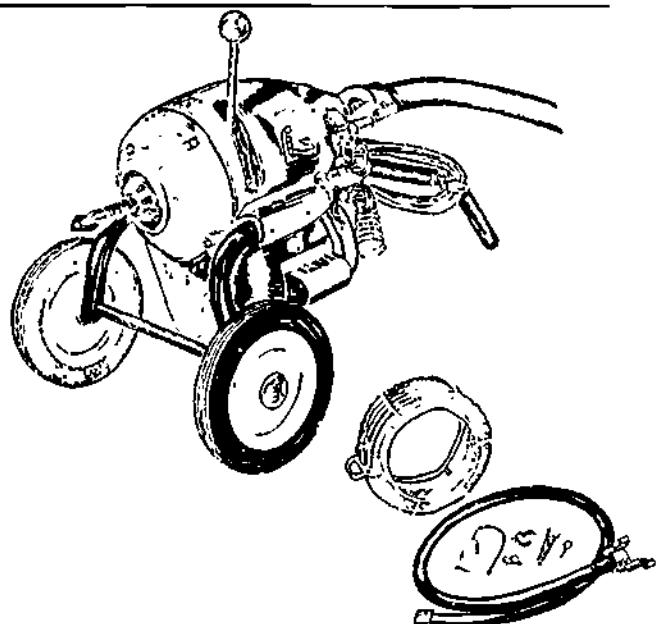

Figure 23-24. Heavy-Duty Drain-Cleaning Machine
74. The drain-cleaning machine shown in Figure 23-24 is of a heavier type than those on preceding pages. The manufacturer claims that it will speed-clean NPS 1½ to NPS 4 pipelines up to 30 m. It spins both 16 mm (for NPS 1½ to NPS 3 lines) and 22 mm (for NPS 3 to NPS 4 lines) sectional cable with speed coupler.